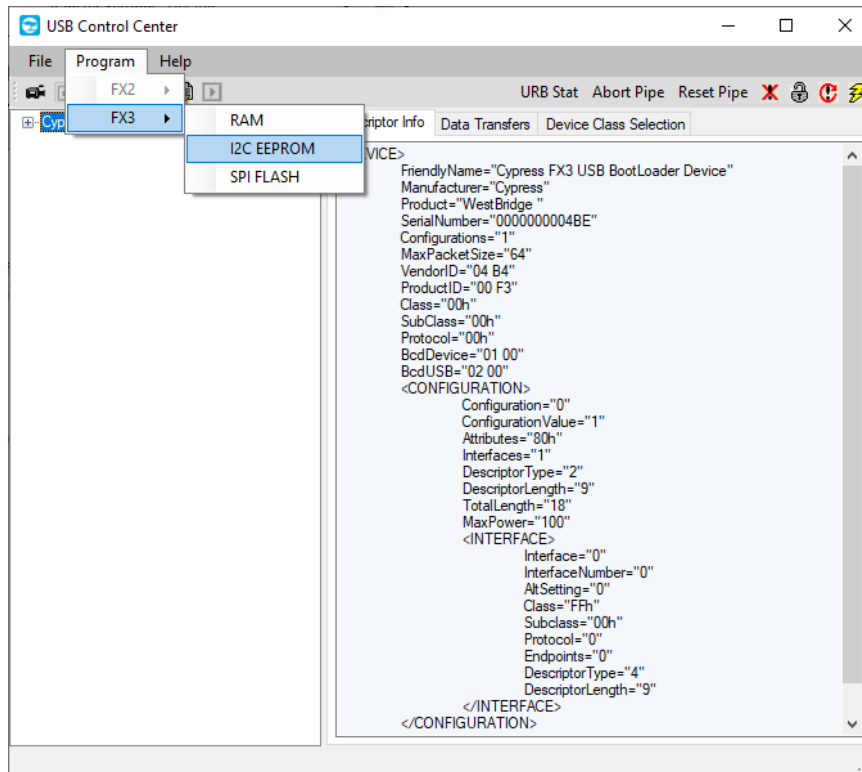

Figure 4.2. Selecting FX3 I2C EEPROM in USB Control Centre
4. Press the SW2 button to reset the FX3 chip. Figure 4.2 shows the boot loader device screen.